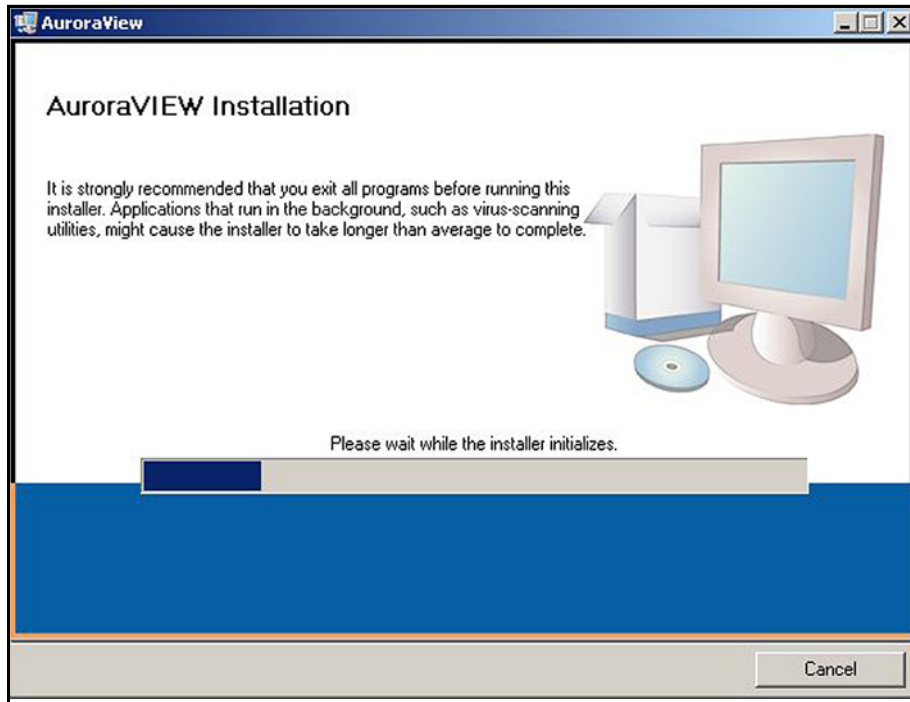

Figure 53: Installation Recommendation
4. Exit all other programs before running the installer (see *Figure 53* below).